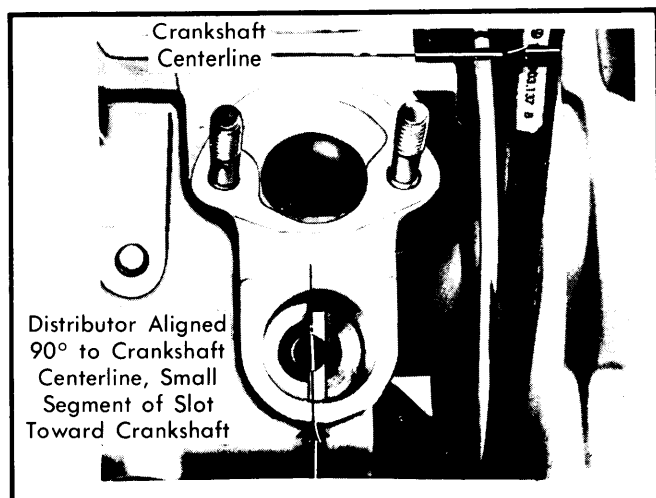

Fig. 12 Distributor Drive Installation
7) Set engine to number 1 firing position. Place distributor drive washer on a long screwdriver and drop into place at bottom of distributor drive hole. Insert distributor drive with slot at 90° to crankshaft and small segment of slot toward pulley (See Fig. 12).